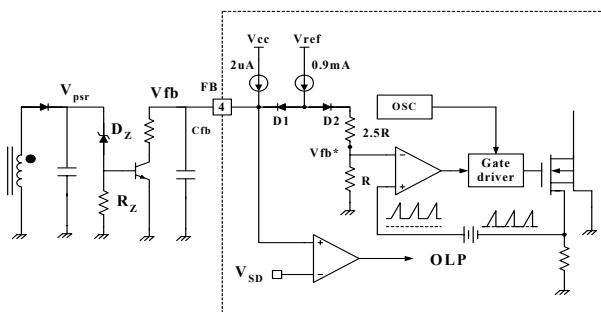

Figure 2. Primary side control circuit
2. Feedback Control : FS8S0965RCB employs primary side regulation, which permits elimination of feedback circuit components in the secondary side such as opto coupler and TL431. Figure 2 shows the primary side control circuit. The primary side regulation voltage (V_{psr}) is controlled to the breakdown voltage of zener diode (D_z). Because current mode control is employed, the drain current of the power MOSFET is limited by the inverting input of PWM comparator (V_{fb}^*). When MOSFET turns on, usually there exists high current spike in the MOSFET current caused by primary-side capacitance and secondary-side rectifier reverse recovery. In order to prevent premature termination of the switching pulse due to the current spike, the FPS employs leading edge blanking (LEB). The leading edge blanking circuit inhibits the PWM comparator for a short time after the MOSFET is turned on.